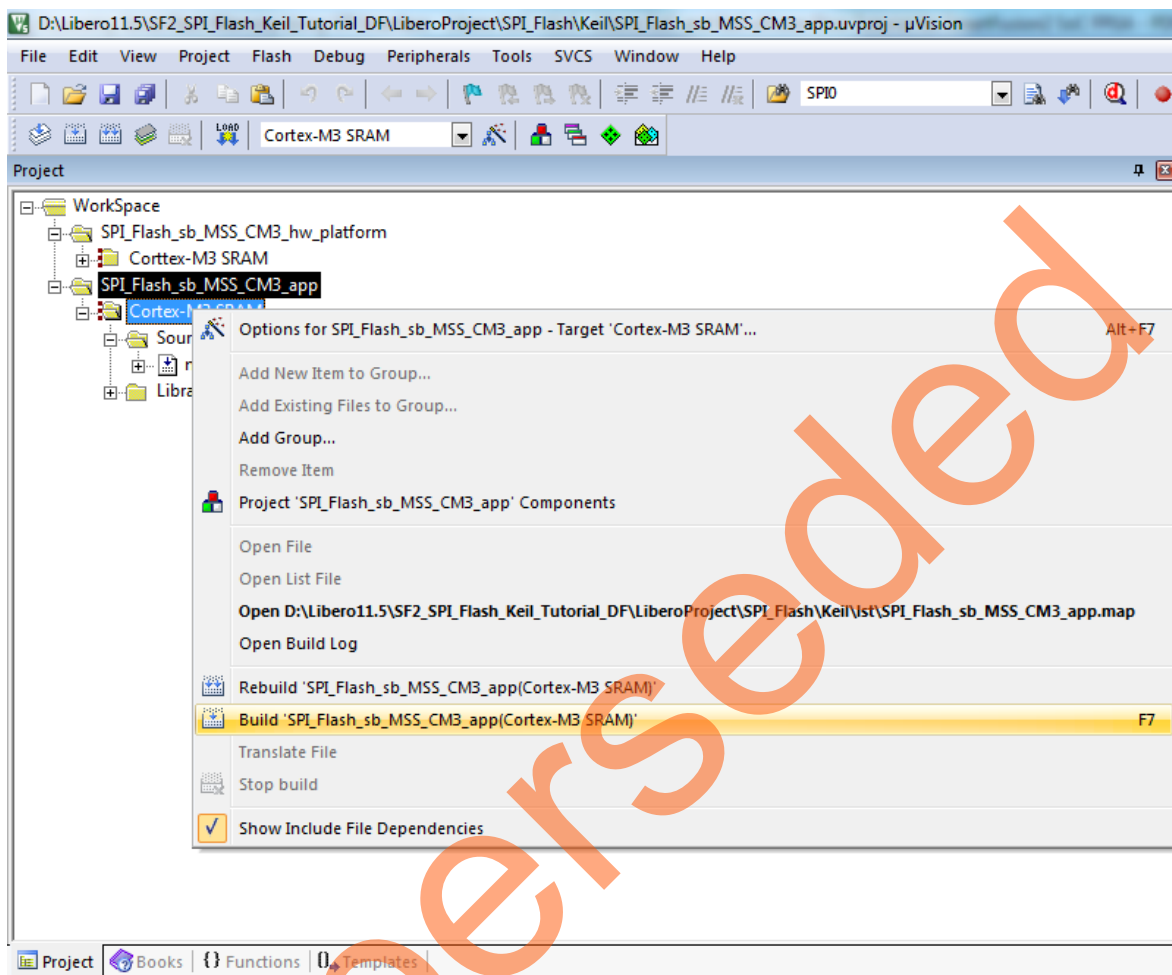

Figure 31 • Build Application Window
16. Right-click **Cortex-M3 SRAM** under **SPI_Flash_sb_MSS_CM3_app** and select **Build SPI_Flash_sb_MSS_CM3_app (Cortex-M3 SRAM)** as shown in Figure 31. It compiles all of the source files and links the object files into an AXF file to debug. Make sure that there are no errors. Correct any syntax errors and rebuild if necessary.